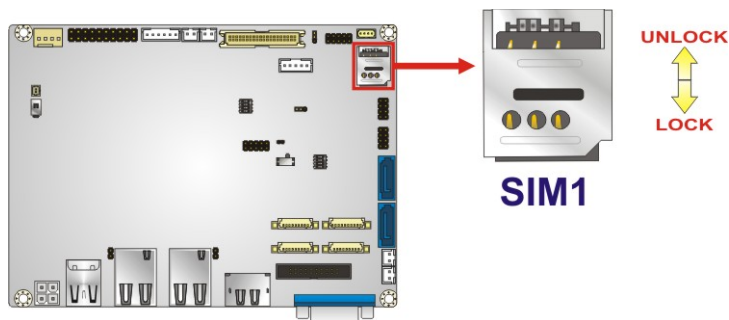

Figure 3-21: SIM Card Slot Location
- CN Location:** See **Figure 3-21**